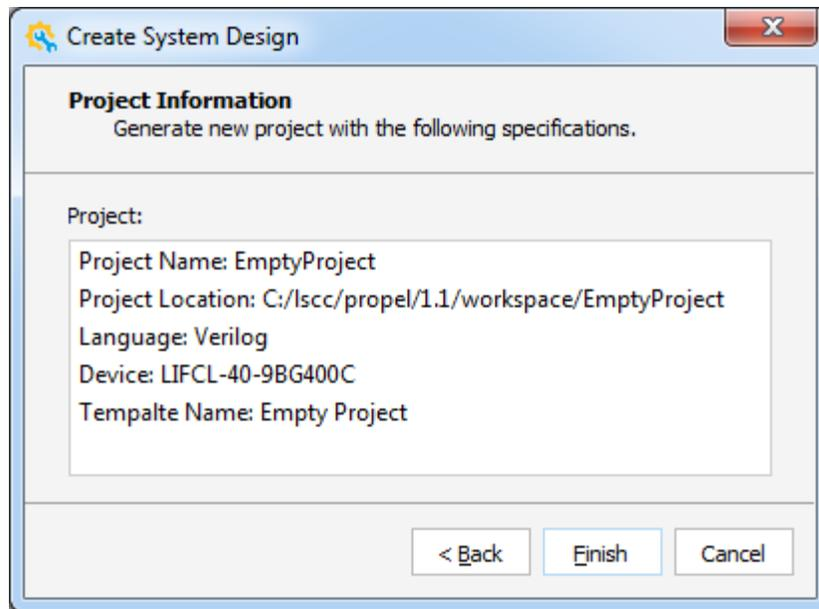

Figure 2.6. Create System Design - Project Information Wizard
8. Click **Next**. The Project Information wizard opens (Figure 2.6).